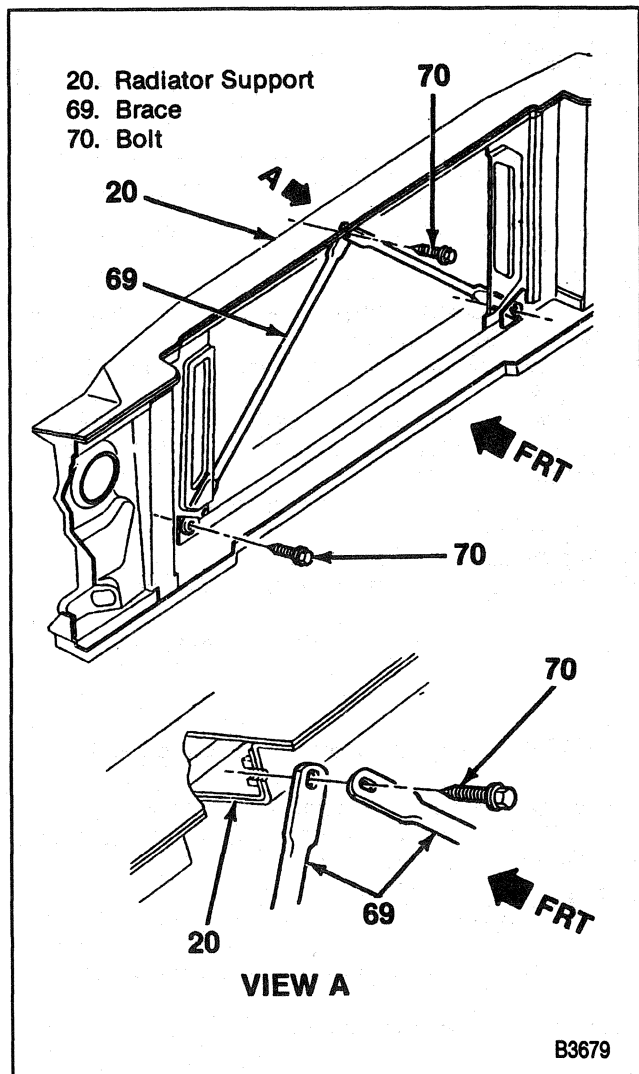

Figure 25—Radiator Support Braces
22. Support braces from the support (Figure 25).
- Place the top of the left brace between the support and the right brace (Figure 25).